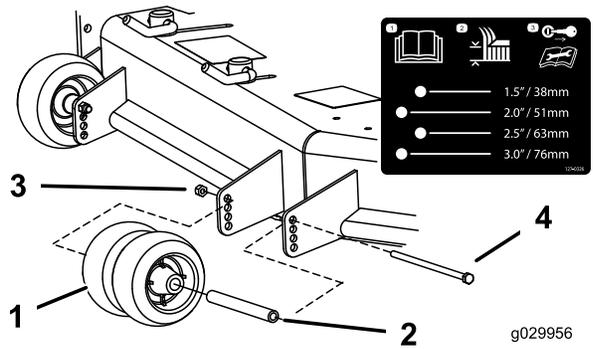
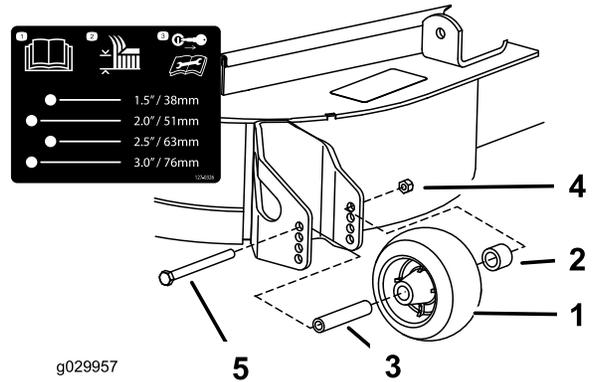
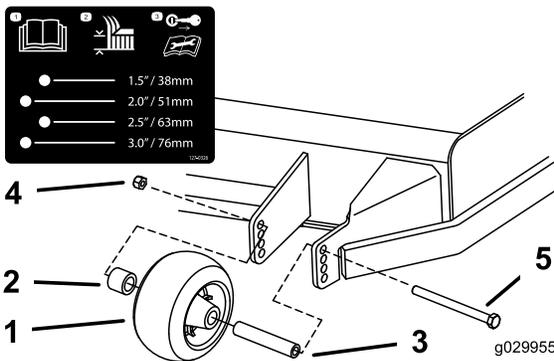

Figure 30
Figure 31
Figure 29
3. Adjust the anti-scalp rollers as shown in Figure 29, Figure 30, and Figure 31.